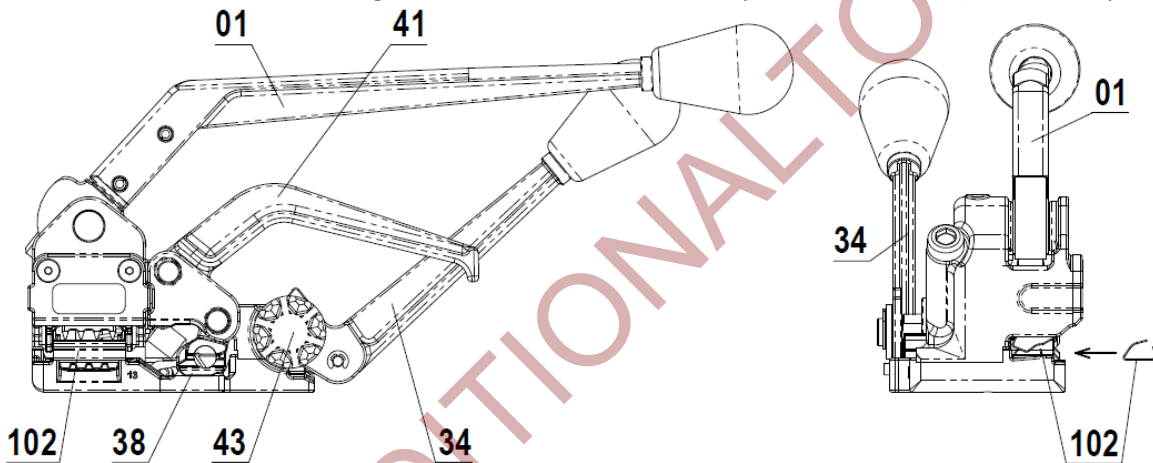

Fig. 2
1. Load a Seal 102 as shown on Fig. 2. For MUL-341 use ST-340 open seals for 1/2" (12mm) strap.